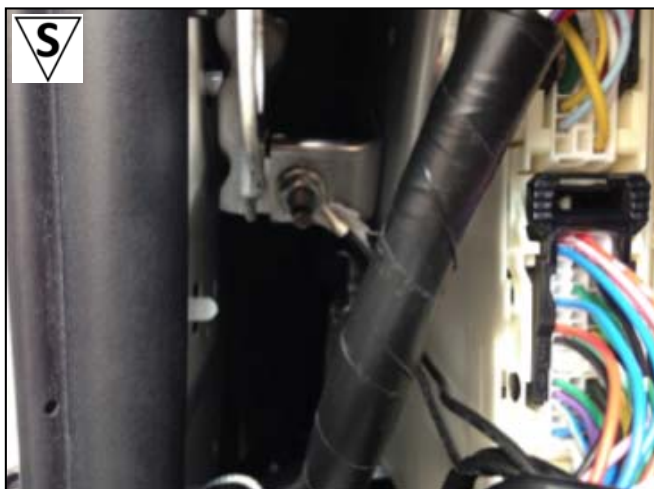

Figure 9
13. Secure the black wire with a ring terminal from DRL harness to ground location behind kick panel. Torque the nut to 5ft. lbs. See Figure 9.